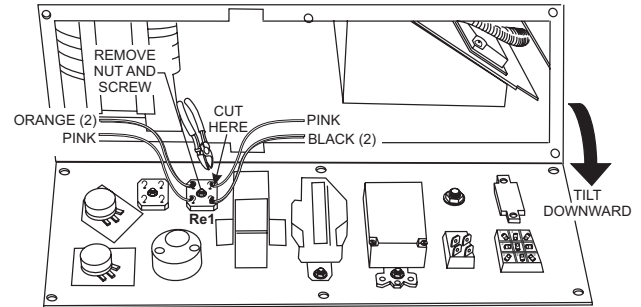

Figure 2. Rectifier Re1 Removal
- Tilt the front panel downward (Figure 2) to gain access to the control box wiring. If necessary support the front panel to reduce the strain on the internal wiring.
- Using wire cutters, cut all wires connected at the terminal leads of rectifier Re1 (Figure 2).